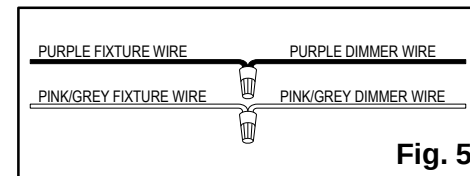

Fig. 5
1. Pull wires from light fixture hole, the dimming wires will be wrapped around the power supply wires. (Fig. 6) Connect the **purple** and **pink/grey** fixture wires to corresponding wires of the wall **dimmer**. (Fig. 5)